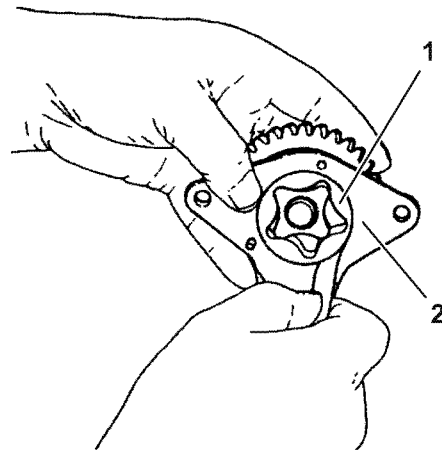

Figure 9-6
Inspect the outside diameter clearance of the outer rotor. To inspect this, insert a feeler gauge between the outer rotor (Figure 9-6, (1)) and the lubricating oil pump body (Figure 9-6, (2)).